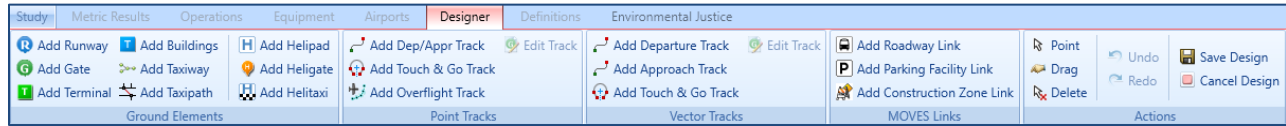

Figure 8. Airports Designer Tab
1. Select the *Designer* tab (Figure 8). AEDT will load all of the airport layout features.
1. In the *Point Track* ribbon group, click *Add Dep/App Track* (Figure 8). A pencil icon replaces the mouse cursor.